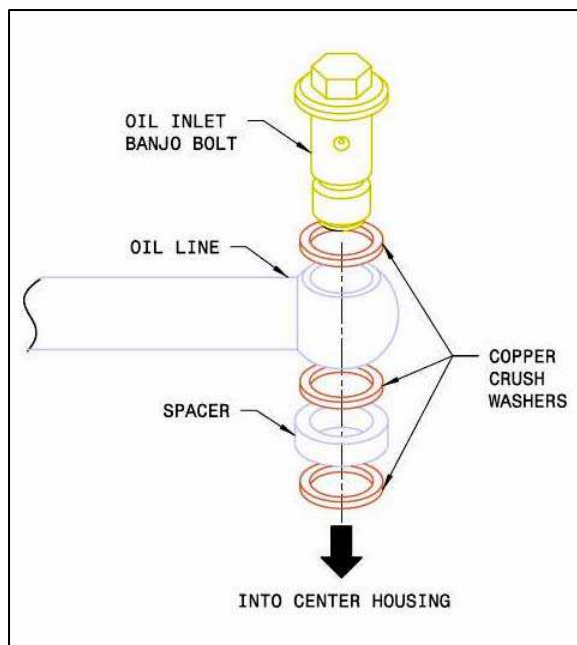
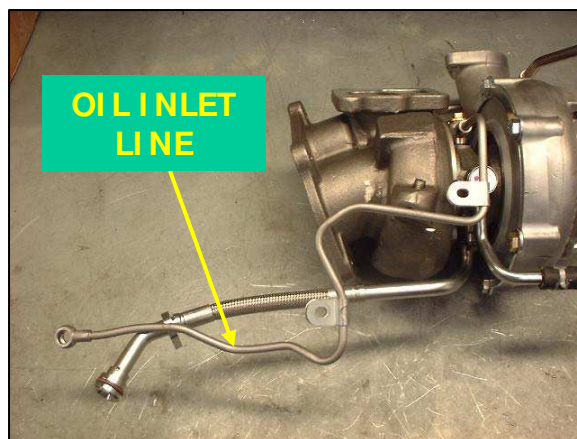

Fig. 33
Fig. 34
36. Install the OE oil feed line onto the top of the Garrett turbo center housing. Use the new banjo bolt supplied in the kit, along with the short steel spacer and the **three** new 12mm copper crush washers. Order of assembly **onto bolt**: 1st washer, oil line, 2nd washer, spacer, 3rd washer. The bolt, together with washers, spacer and oil line, is then installed into the center housing. Ensure that the crush washers stay centered and are not jammed by the bolt or spacer during installation. Snug the banjo bolt (do not tighten) so that the oil line can be adjusted on the vehicle. Bolt will be tightened later in step 43. See Fig. 33 for assembly order. See Fig. 34 for approximate orientation on turbocharger.
(Fig. 34 shows approximate orientation of oil inlet line on turbocharger. Do not tighten inlet bolt yet; oil line will need to be adjusted once turbocharger is installed on vehicle.)